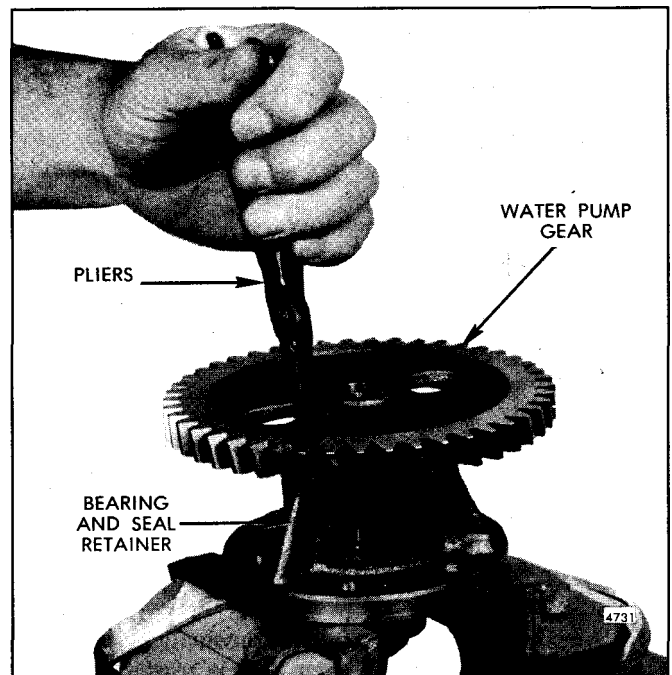

Fig. 4 - Removing Retaining Ring with Pliers J 4646
5. Turn the pump gear so the slot is over the ends of the bearing retaining ring, insert pliers J 4646 into the slot and, with the aid of a small screw driver, remove the ring from the groove (Fig. 4).